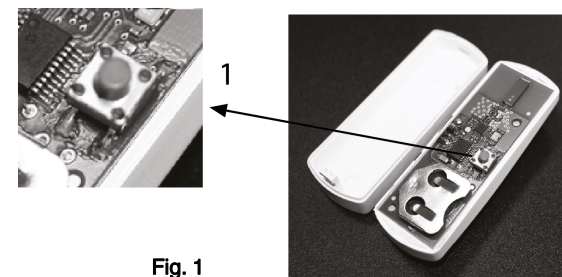

Fig. 1
-> It has a (1) programming key (check fig. 1).